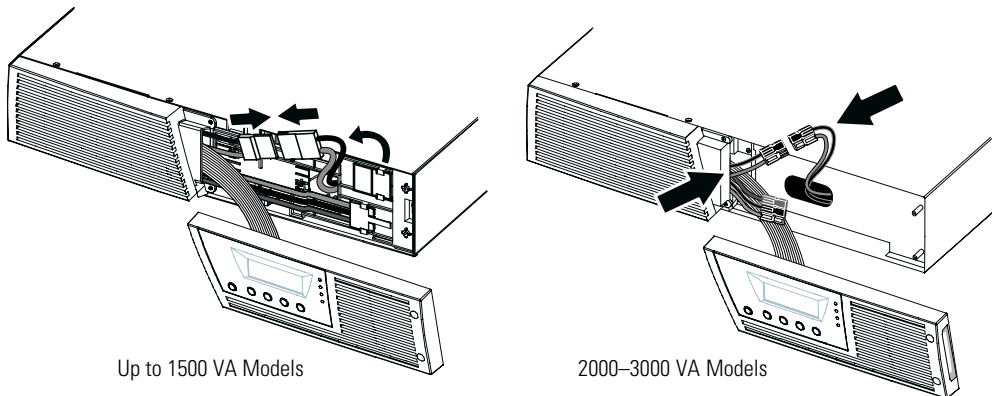

Figure 10. Connecting the UPS Internal Batteries
2. Connect the internal battery connector (see Figure 10).